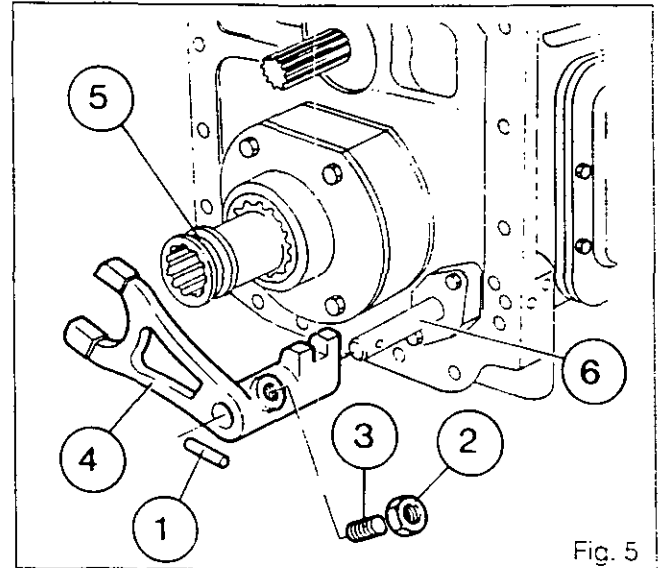

Fig. 5
Remove the pin (1), the locknut (2), the adjustable setscrew (3), the fork (4) with the sleeve (5). (Fig.5)